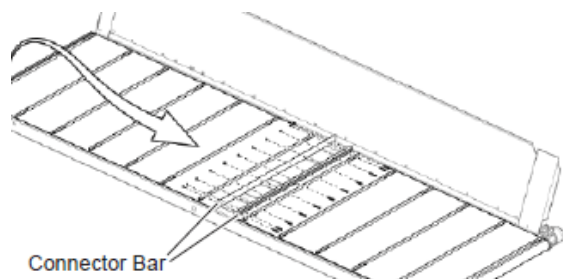

Figure 60
2. Move the splice to the end of the header and remove all the bolts in the splice. Figure 60